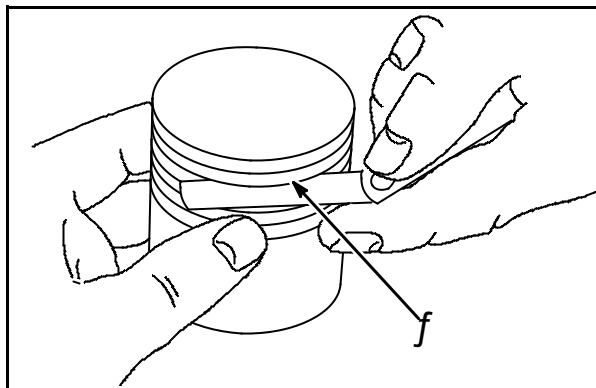

Fig. 3
Check side clearance of ring grooves using a feeler gauge and NEW piston rings (3), Fig. 3. Replace the piston if the ring groove is worn beyond specification.